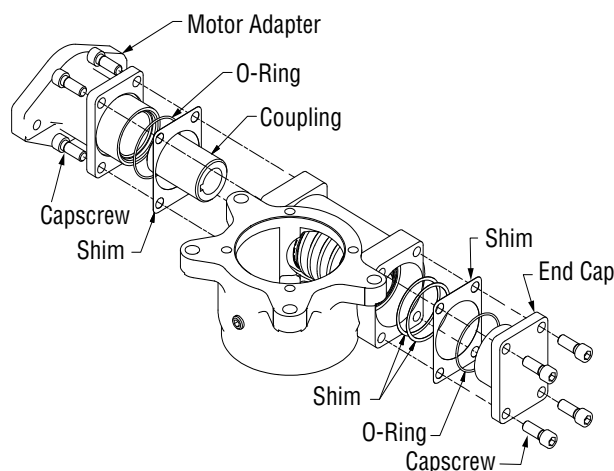

Figure 5-38, Worm Cap/Motor Adapter
10. Remove the housing cover and motor adapter. Make note of any installed shims. Capscrews are installed with Loctite, so use a long-handled wrench to break them loose. Use a large screwdriver and hammer to separate the worm cap from the housing. Note any installed shims. (Figure 5-38)